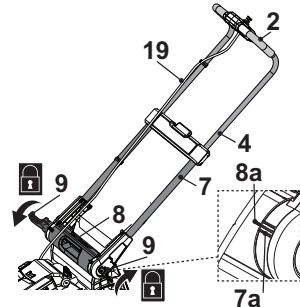

Fig. 2
3. Secure the handle assembly by folding up the clamp lever (9) towards the transport handle (8). If clamp lever (9) cannot be folded, loosen it and fold again. If it is too loose, tighten it by turning the clamp lever (9) clockwise (Fig. 2).
**NOTE:** For first assembly, secure the handle assembly with the clamp lever (9) in the middle position of the tilt adjustment mechanism by aligning the indication line (7a) with the indicator (8a) of transport handle (8). Ensure the handle assembly is assembled on the same height level on both side.